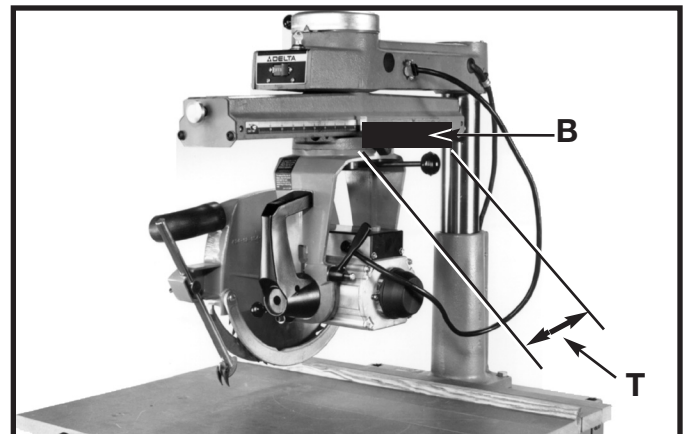

Fig. 56A
A block of wood placed at (B) Fig. 56A clamped to the track arm with a small “C” clamp will prevent unnecessary travel (T) of the cutting-head on the track arm. This is especially useful when performing repetitive operations. Clamp the block of wood to the right side of the track arm at a position which will stop the cutting-head travel as soon as the saw blade cuts through the workpiece.